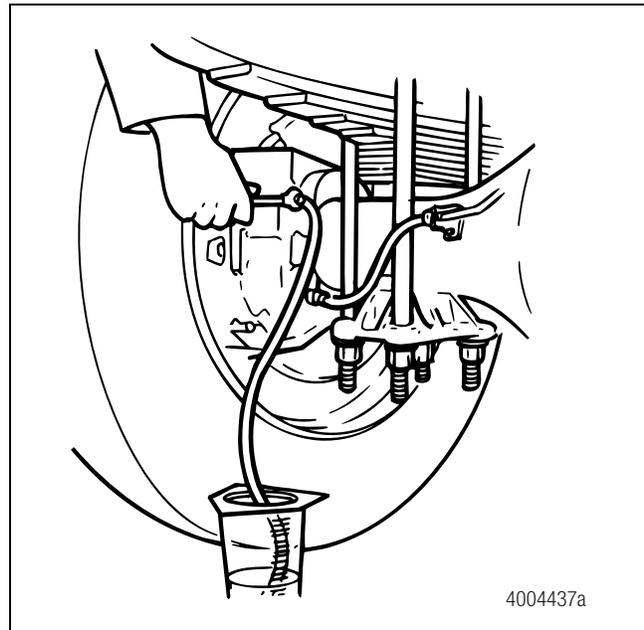

Figure 4.58
- C. Use a wrench to open the bleeder fitting screw. Figure 4.58.